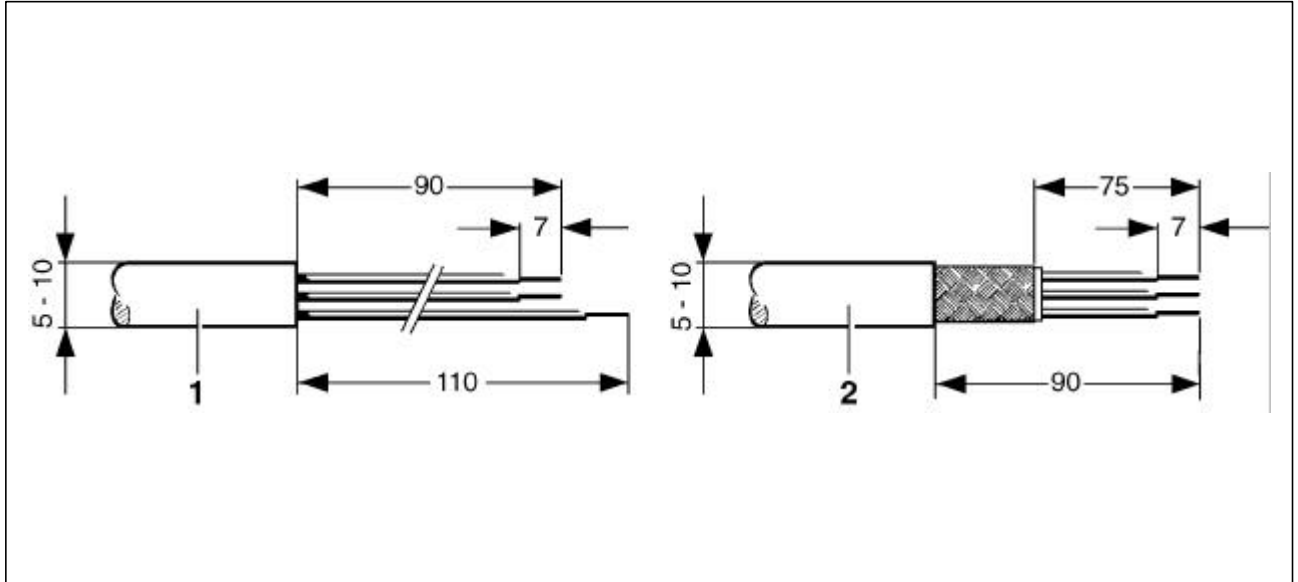

Fig. 8-3 Dimensional information on stripping the cables/leads
- Remove the sheaths of the power supply cable (1) and of the setpoint/actual value cable (2) and remove the insulation of the leads in accordance with Figure 8-3.
- In order to comply with the guidelines, it is essential to make the earth and screening connections according to Figures 8-3, 8-4 and 14-5.